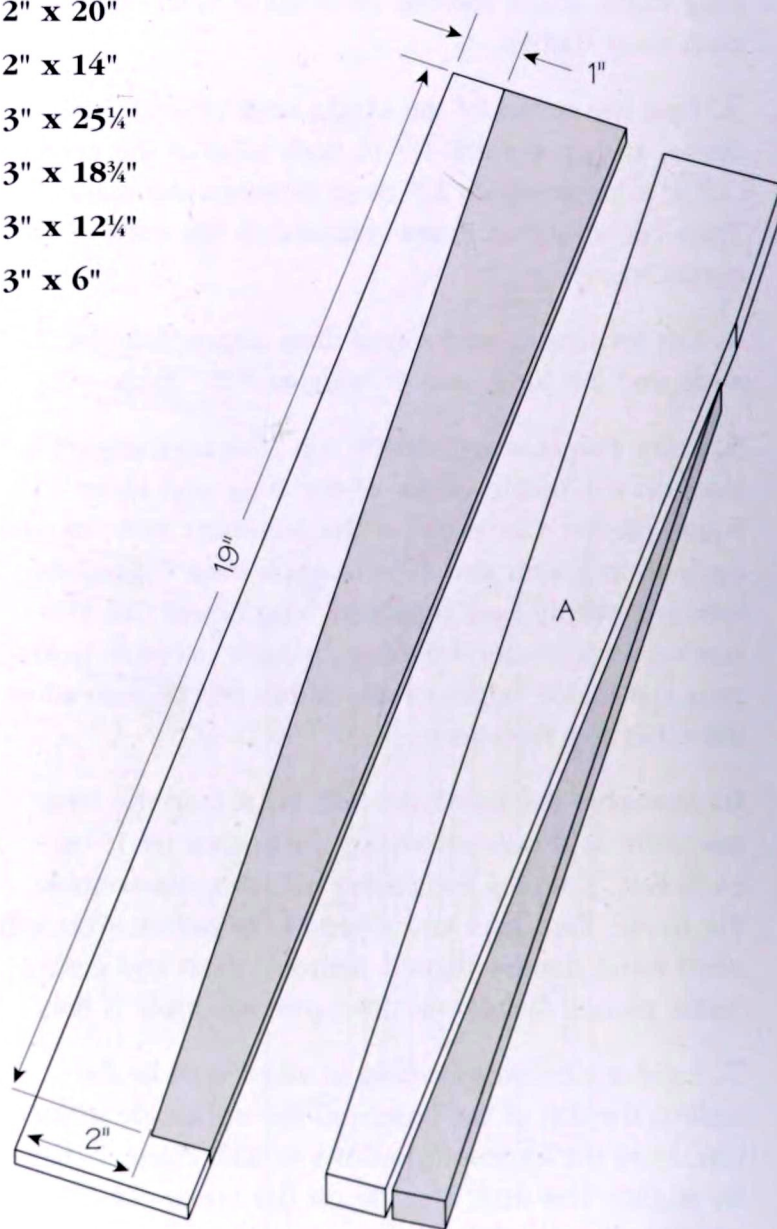

Figure 1
3. Cut four legs (A) to length, 20", using the drop stop on your table saw. Cut four 14" aprons (B) while you're there.
4. You may wish to make a simple taper jig for the legs from $\frac{1}{2}$ " or $\frac{3}{4}$ " plywood. Refer to figure 1. Begin
edge from the 1" x 1" mark. Band saw precisely to the lines, removing the shaded area in figure 1.